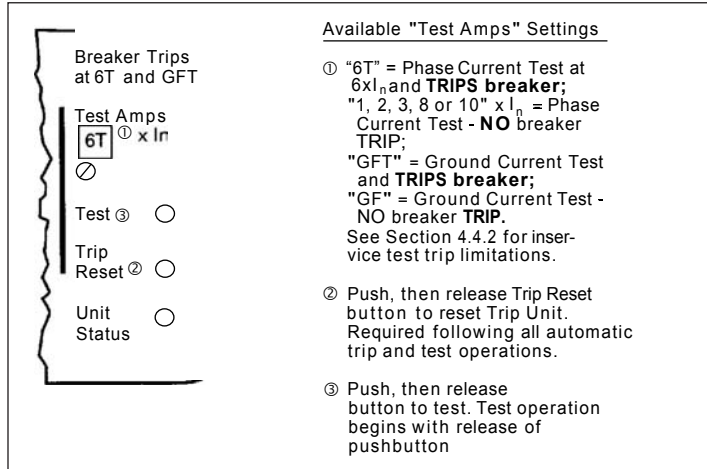

Figure 19. Integral Test Panel (Lower Right Corner of Trip Unit).
As indicated in Figure 19, six different "Test Amps" settings (1, 2, 3, 6T, 8 and $10 \times I_n$) are available for testing the phase elements of the Trip Unit, and two settings (GF and GFT) are provided for testing the ground element.
1. Place the "TEST AMPS" selector switch (see Figure 19) in one of the six "No Trip" test settings, i.e., 1, 2, 3, 8, or 10 x I_n, or GF.
2. Place the "TEST AMPS" selector switch (see Figure 19) in either the "6T (or "GFT) position.
3. Press and release the (Black) "TEST" push-button (see Figure 19) - the test starts when the push-button is released.
5. Reset the Trip Unit by pressing and releasing the "Trip Reset" push-button (see Figure 19). All LEDs lit by the "Trip" test action should turn "OFF".